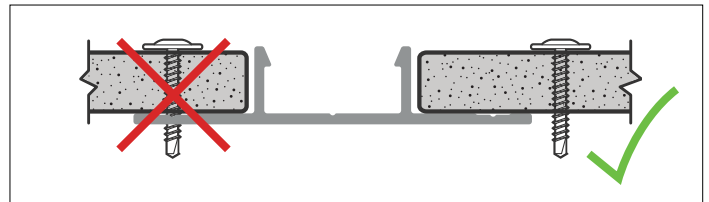

Figure 15.5
**Note :** *Never fasten a panel or lap plank through a nailing flange. This could result in damaging the panel over time. (Figure 15.5) (see Fastening Info).*